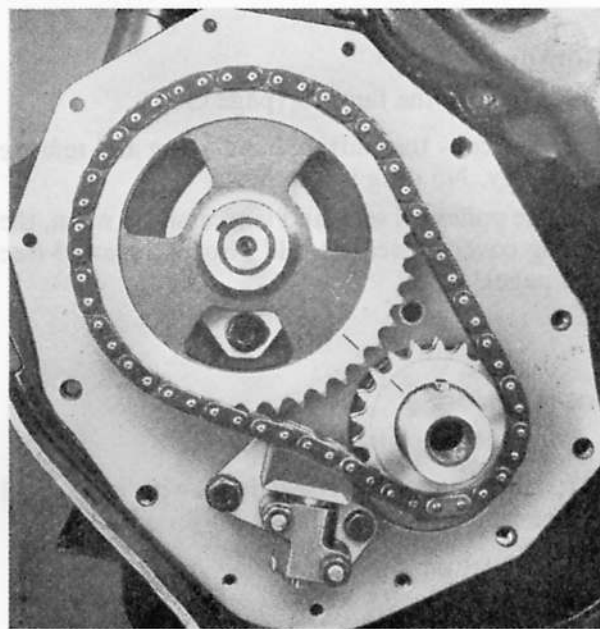

Fig. A.17. Alignment of valve timing marks
2. Rotate the engine with the starting handle until the timing marks on the timing wheels are aligned adjacent to each other (Fig. A.17).
2. Ensure that the valve timing marks on the wheels are aligned adjacent to each other (Fig. A.17) then assemble the chain to the wheels. Insert the connecting link, placing one plate between the rollers, the other at the rear. Assemble the spring clip to the link pins so that the clip legs are trailing, i.e. pointing in the opposite direction to chain travel.